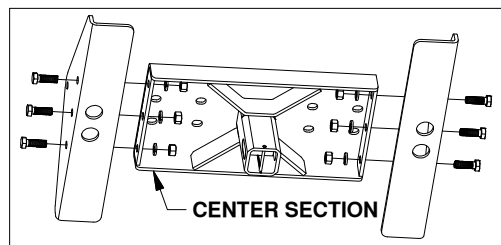
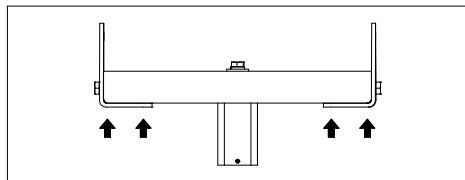

Figure A1: Underside view of center section and legs.
FIGURE A2: Front view of center section and legs.
1. Locate six 1/2" cap screws, 1/2" split lock washers and, 1/2" nuts. Pass three cap screws through the outside of each base leg and hand tighten each cap screw with a split lock washer and nut as shown in Figure A1. While securely holding each leg against the bottom of the center section, torque each bolt to 110 ft-lbs, see Figure A2.